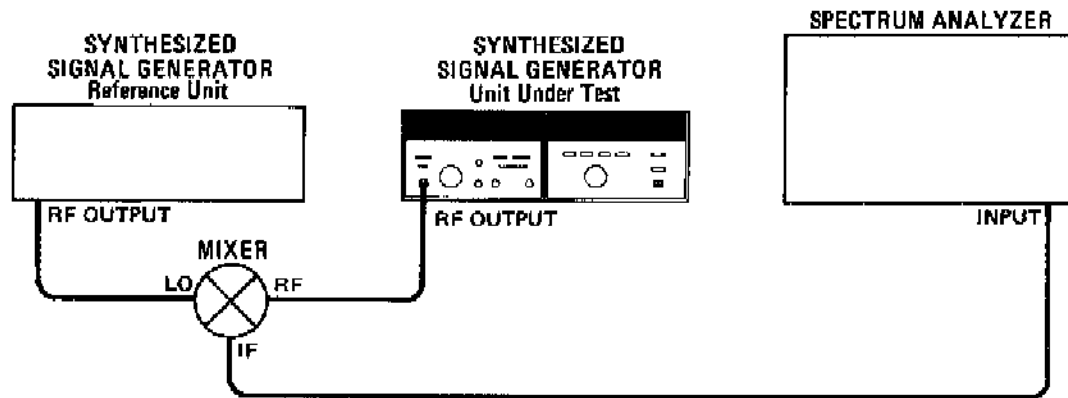

Figure 4-7. Single-Sideband Phase Noise Ratio Test Setup
2. Connect the equipment as shown in Figure 4-7.